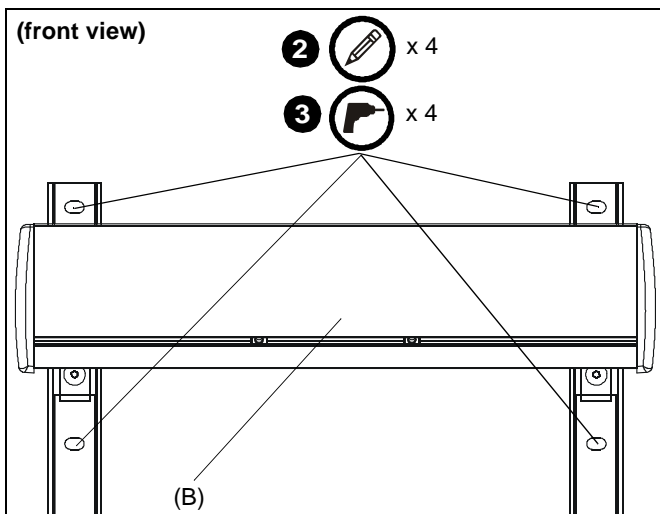

Figure 4
2. Using wall bracket (B) as a template, mark four holes at the holes in bracket. (See Figure 4)
3. Drill four 3/8" holes at marked locations in wall. (See Figure 4)